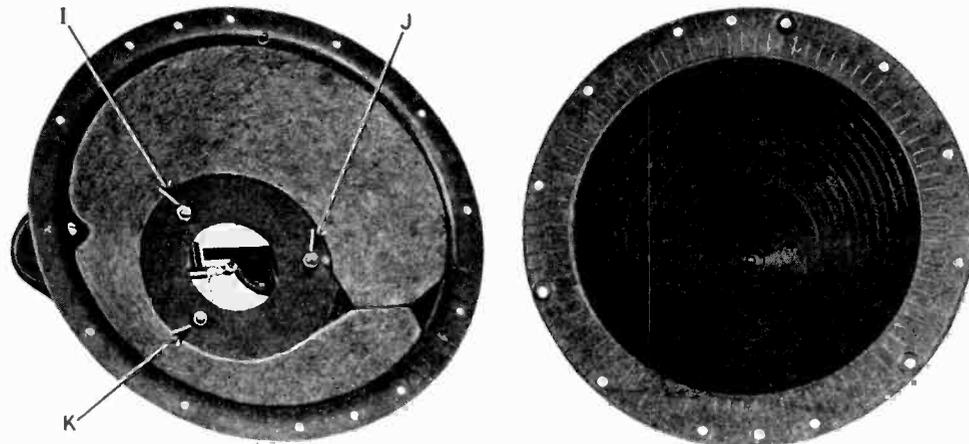

Figure 16—Cone support and cone
- (c) The motor mechanism may now be removed from the magnet by releasing nuts *I*, *J* and *K*, Figure 16. The magnet coil leads must be unsoldered from the filter unit before the motor can be cleared of the frame. Place a large nail or soft iron bar across the poles of the permanent magnet to act as a keeper. (See Figure 14.)